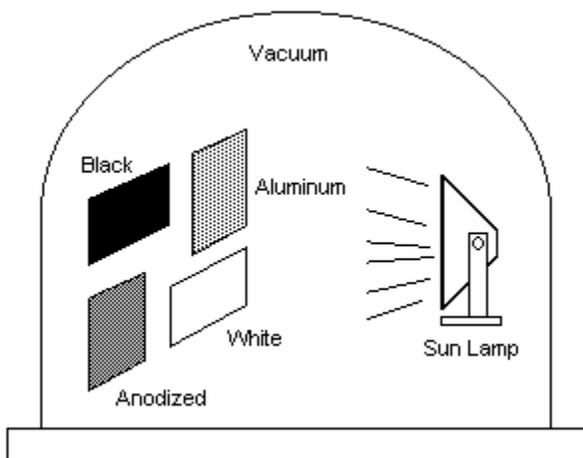

Figure 2. Radiative Heating in Vacuum
1. Place samples in a vacuum as shown in Figure 2. This eliminates the effects of convection and since there is little conduction to their mounting system, the only heat transfer is via radiation.